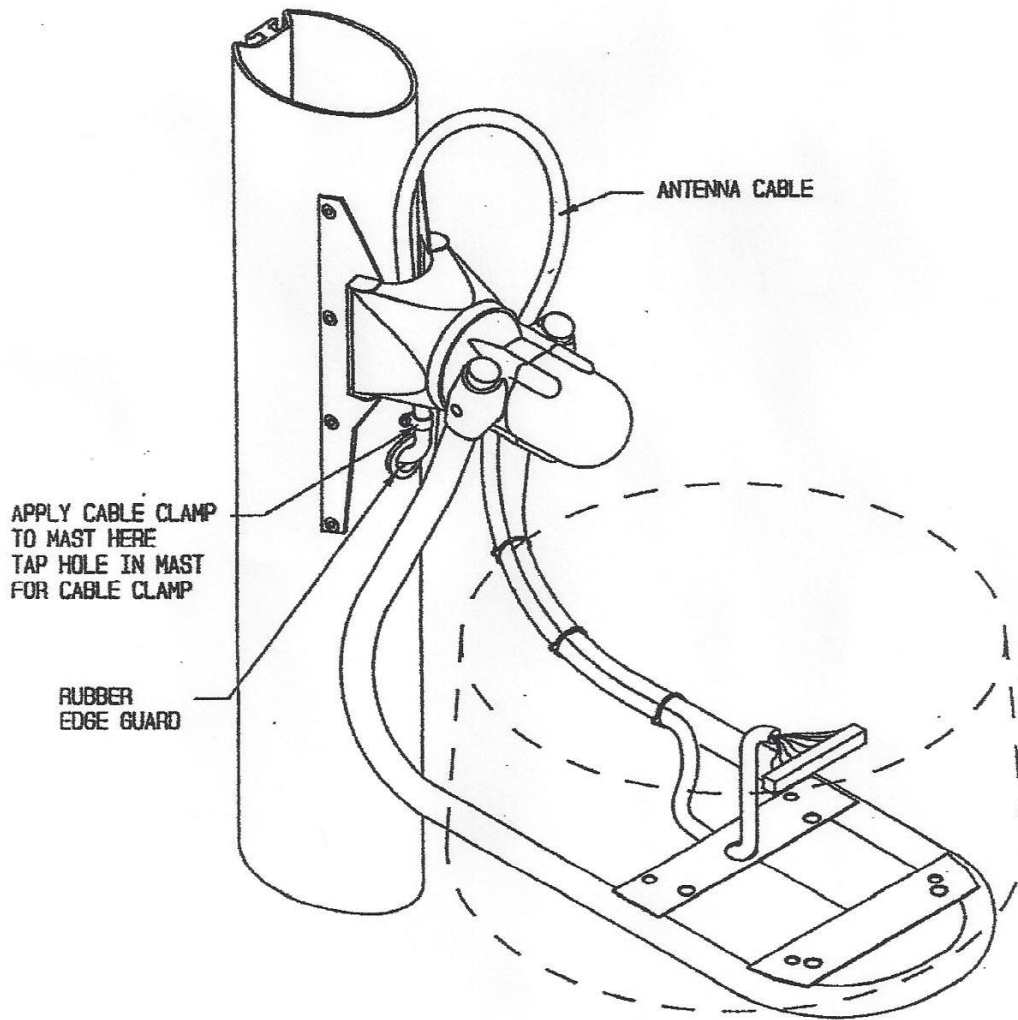

FIGURE 3
- 3) Fasten the cable to the mast (FIGURE 3).
- 5) Fasten the radar dome to the cradle leaving slack in the cable per FIGURE 3.